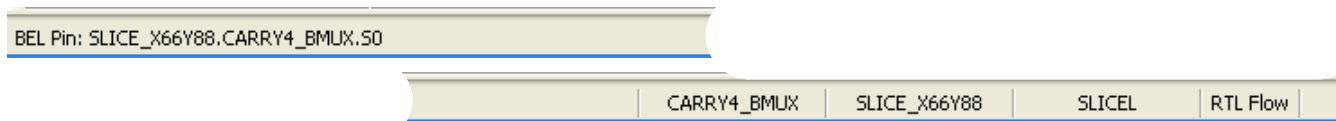

Figure 4-24: Information Banner
The application status bar at the bottom of the main window displays useful information such as the item currently under the mouse cursor, the currently selected object, the coordinates of the cursor, and the current design mode. Figure 4-24 shows both the left-hand end and the right-hand end of the status bar, separated to provide a closer look.
- **Coordinates** — To the right of the status message field is the coordinates field. As the cursor moves over block RAM, DSP48, and other parts in the Device view, this field displays the name and coordinates as shown in Figure 4-24. If the cursor is over a pin in the Package view, this field displays pin information, such as coordinates, type and name.